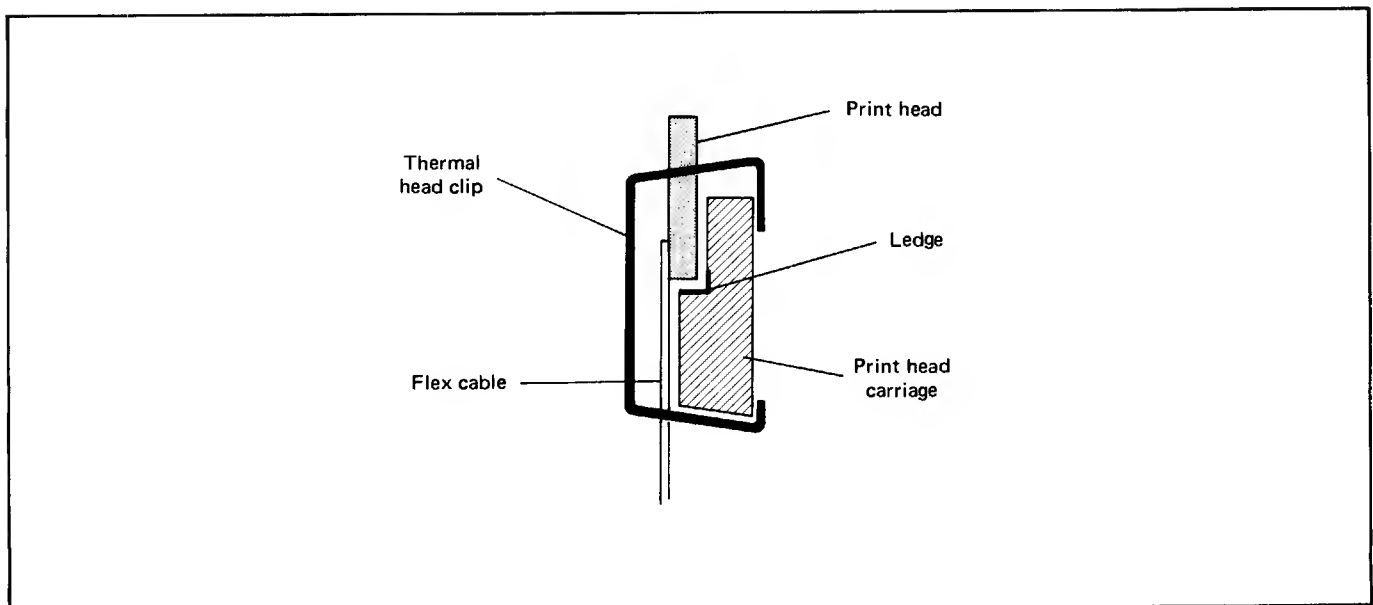

Figure 7-15 Ledge Inside Print Head Carriage
4. Pull the print head up until you can see some of the flex cable through the square hole in the front of the print head carriage. Then push the print head back down until it rests on the ledge on the inside of the print head carriage (see figure 7-15).